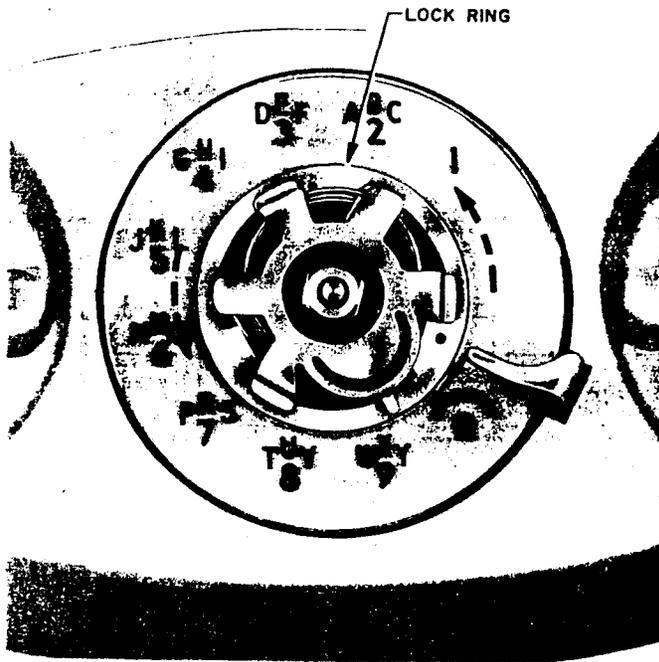
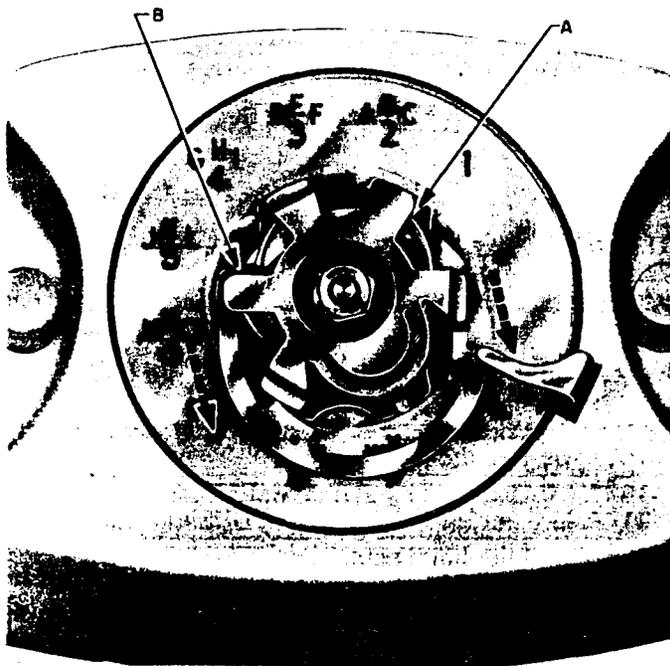

Fig. 24 — 8-Type Dial, Fingerwheel Removed to Show Lock Ring
Fig. 25 — Lock Ring in Extreme Forward Position for Removal
2. Remove lock ring by rotating ring counterclockwise until it is free (Fig. 24). Then raise ring until it is just under fingerwheel hub and slide toward front of dial through openings at A and B (Fig. 25 and 26) until lower end of ring can be lifted over dial hub. Slide ring toward back of dial and remove.